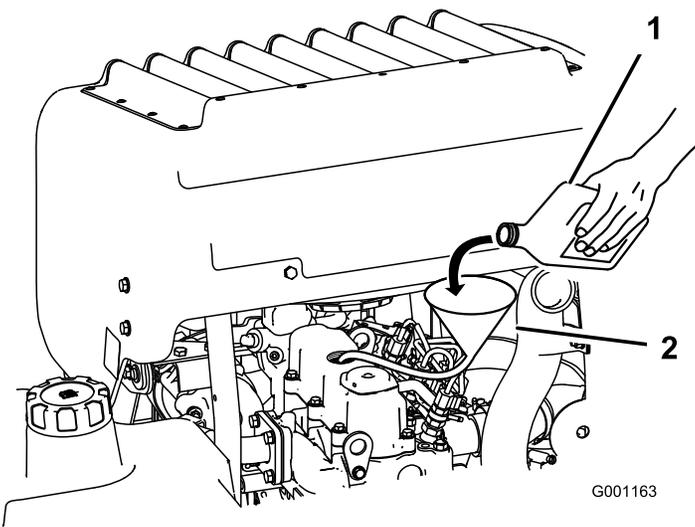

Figure 69
3. Use a hose and funnel to add oil to the engine (Figure 69).